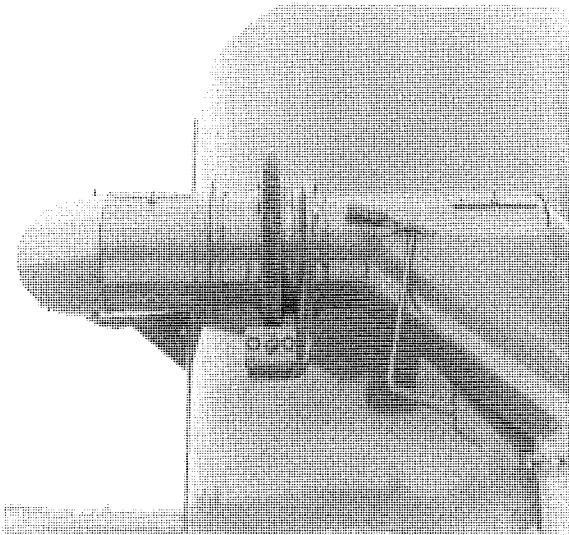

FIGURE 10 - MANUAL LIFT & SWING
**MANUAL CRANK:** (See figure 10) insert crank on the shaft extending from the worm gear (below large gear on upper elbow) to raise or lower the unloading auger.